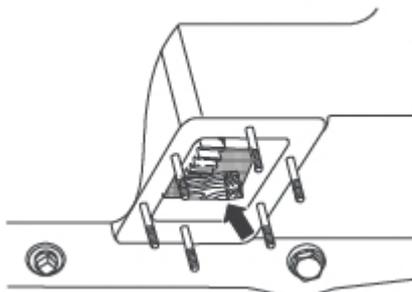

Figure 16 Wedge Location
- a. Insert a wooden wedge between the transmission PTO drive gear and the transmission housing (Figure 16).